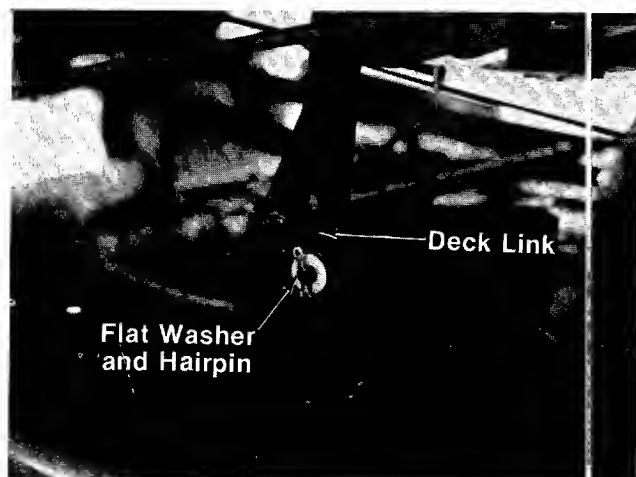

FIGURE 26.
9. Remove the three hairpin cotters and flat washers which hold the deck links to the rider. Two are located at the rear of the deck. See figure 26. One is located at the front of the deck.